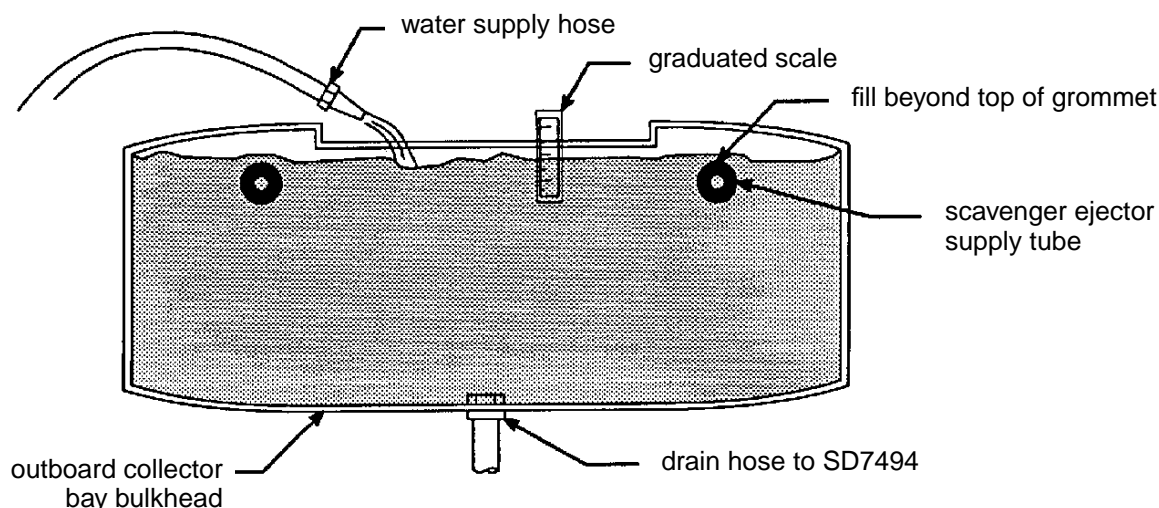

Figure 2 - Leak Test Schematic
- Step 1. Fill the collector bay to just above the scavenger ejector tube grommet (see Figure 2).